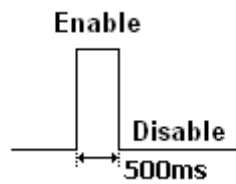
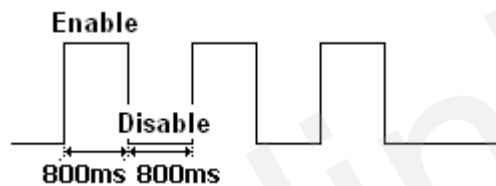
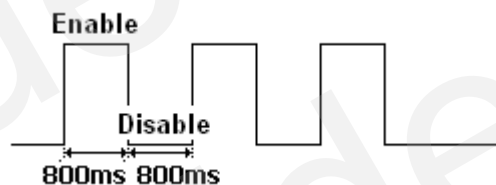

Figure 3: Wave Shape 2
Figure 4: Wave Shape 3
Figure 5: Wave Shape 4
- ✧ <Duration1-2>: Please refer to Figure 3, Figure 4 and Figure 5. The unit is 100ms.
- ✧ <Toggle Times1-2>: Please refer to Figure 3, Figure 4 and Figure 5. If the <Duration1-2> is set to 0, the <Toggle Times1-2> must be set to 0 rather than other values; otherwise the command will be invalid.